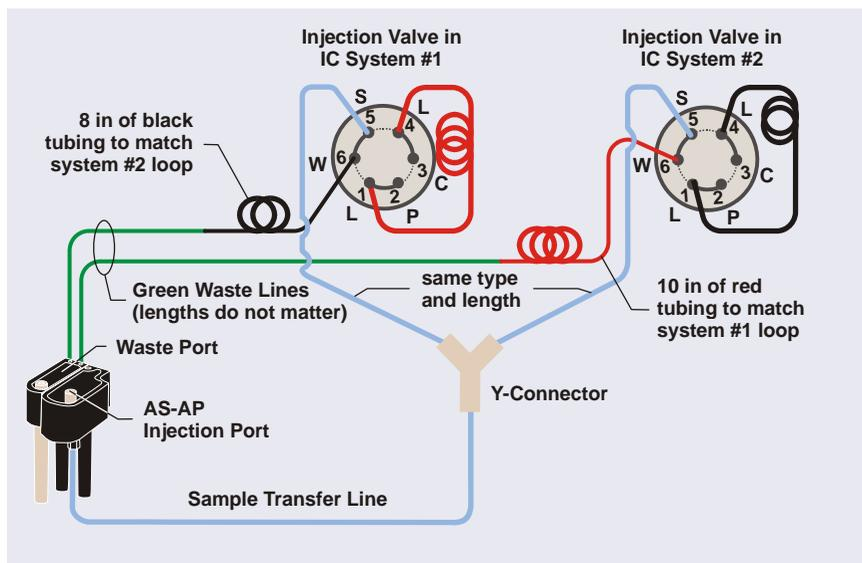

Figure B-25. Example Sample Transfer Line Connections for Simultaneous Injections with Tubing Added for Balancing Flow
- Place any tubing used strictly to match the tubing of the other system after the injection valve (connect it to the waste line) (see Figure B-25).